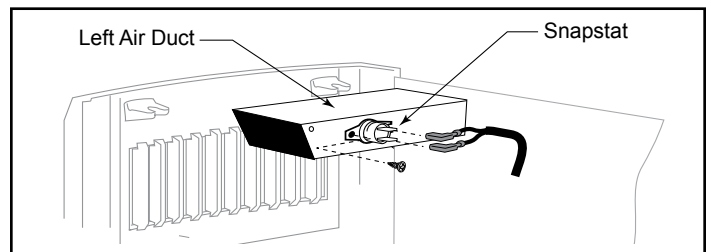

**Figure 70** - Attach snapstat wire assembly to inside of inner shroud with clamp screws.
4. Place the grommet provided in the parts bag assembly on the inner shroud. Run the snapstat extension assembly leads through the grommet toward the firebox. (Figure 70)